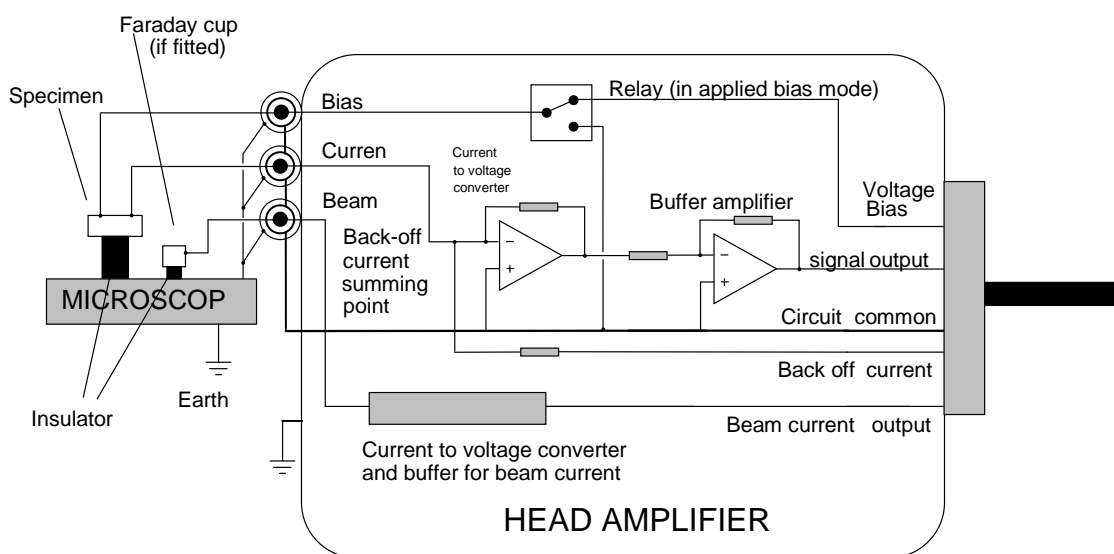

Fig 8. Schematic of the internal electronics of the ICA-2 head amplifier
A schematic of the internal circuitry components of the ICA-2 head amplifier and their relationship with the specimen and microscope is shown below in Fig 8.
1. Ensure that the **BIAS VOLTAGE** and **BACK-OFF CURRENT** facility are switched out, or set to their zero levels. Set the **ANALOGUE OUTPUT GAIN** to unity (1), the **VAR.** control and the **BIAS** should be left at their default "out" positions.
2. Connect up the sample as shown in Fig. 8.